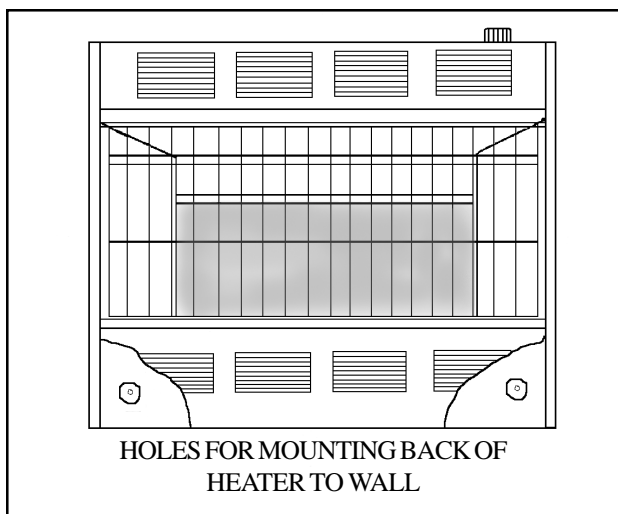

FIGURE 4
STEP 6. Secure back of heater to wall, utilizing anchors (if necessary) or wood screws. See Figure 4.